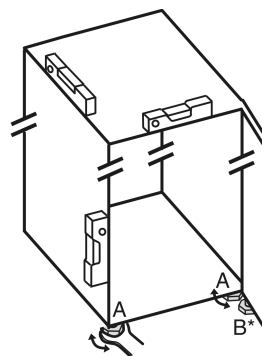

Fig. 34
- ▶ Unscrew the adjustable feet *Fig. 34 (A)* using the enclosed open-end spanner and a spirit level until the appliance is firmly aligned and level.
- ▶ Unscrew the adjustable foot *Fig. 34 (B)* on the swap bearing block with the enclosed open-end spanner until it rests on the floor.
- ▶ Turn the adjustable foot *Fig. 34 (B)* a further 90° at most to avoid damaging the door.